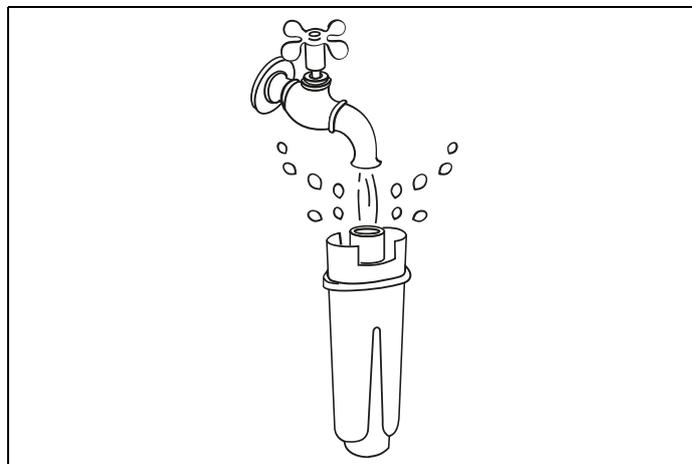

Fig. 61
- 1) **Fill filter with water until it's completely filled** (Fig. 61): To activate the filter, run tap water through the hole in the filter as shown in the figure until water comes out of the openings at the side for more than a minute. Press  NEXT;